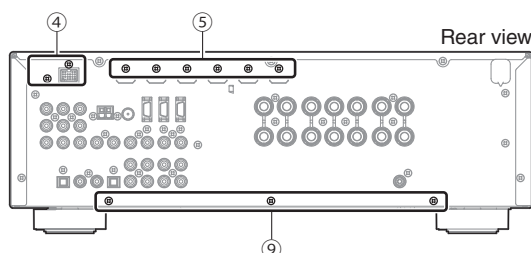

Fig. 3
- Remove 2 screws (④) and 6 screws (⑤). (Fig. 3)
- ④のネジ2本、⑤のネジ6本を外します。(Fig. 3)
- Remove 3 screws (⑨). (Fig. 3)
- ⑨のネジ3本を外します。(Fig. 3)
4. When writing of the firmware is completed, "Update Success", "Please..." and "Power Off!" are displayed repeatedly. (Fig. 3)
4. ファームウェアの書き込み完了後、"Update Success"、"Please..."、"Power Off!" が繰り返し表示されます。(Fig. 3)